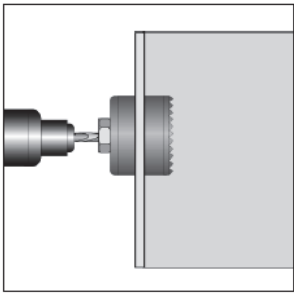
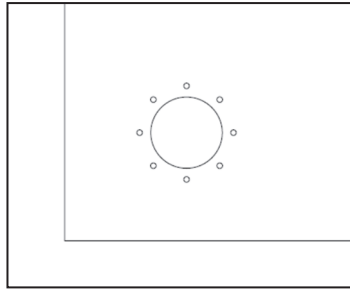

Figure 2
Figure 2A
**Step #2 (See Figure 2, and Figure 2A)**